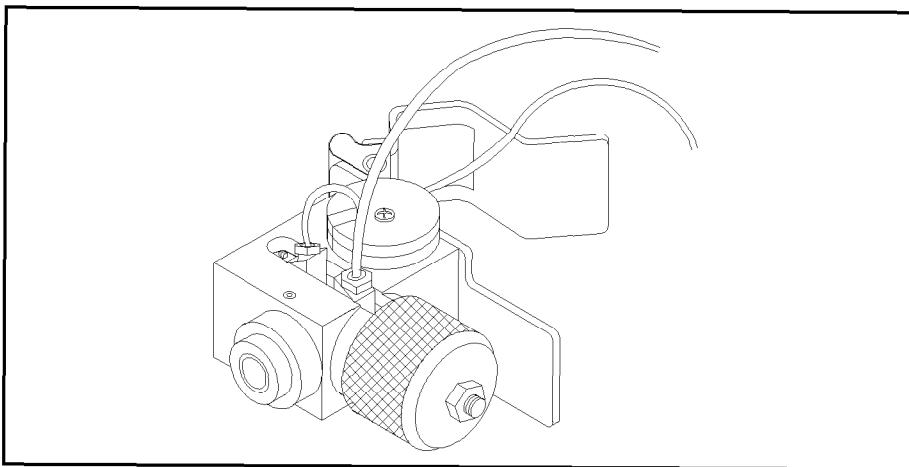

Figure 4-25. Connecting Capillaries to Flow Cell
4. Reconnect the inlet capillary (the red color-coded capillary with the heat exchanger attached) to the cell piece at the front of the cell, see Figure 4-25.
6. Reconnect the outlet capillary (the blue color-coded capillary) to the cell piece at the rear of the flow cell, see Figure 4-25.